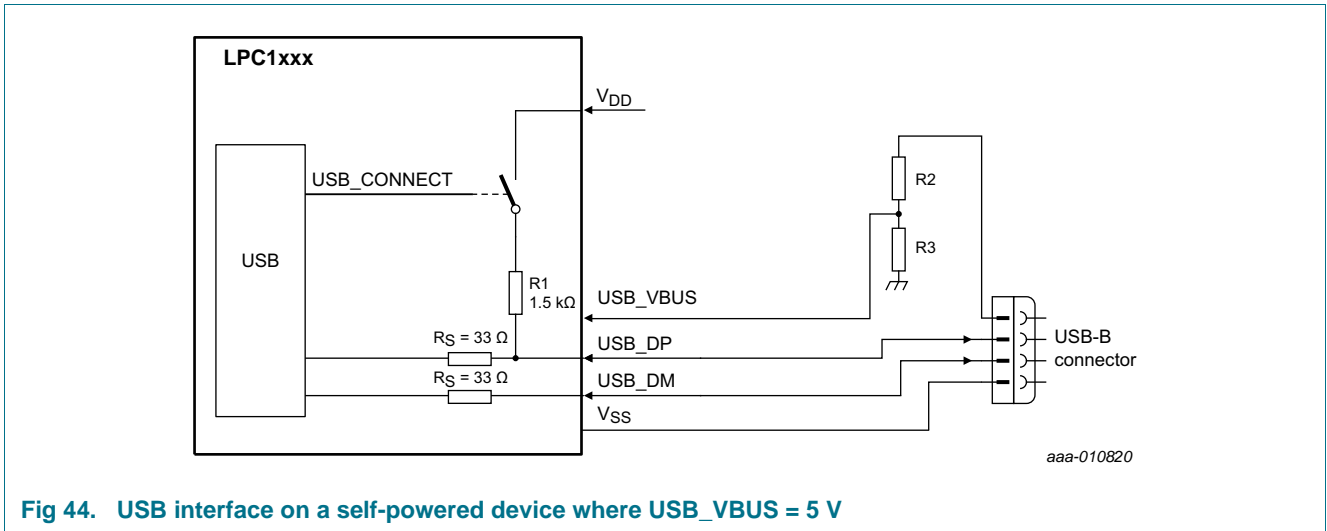
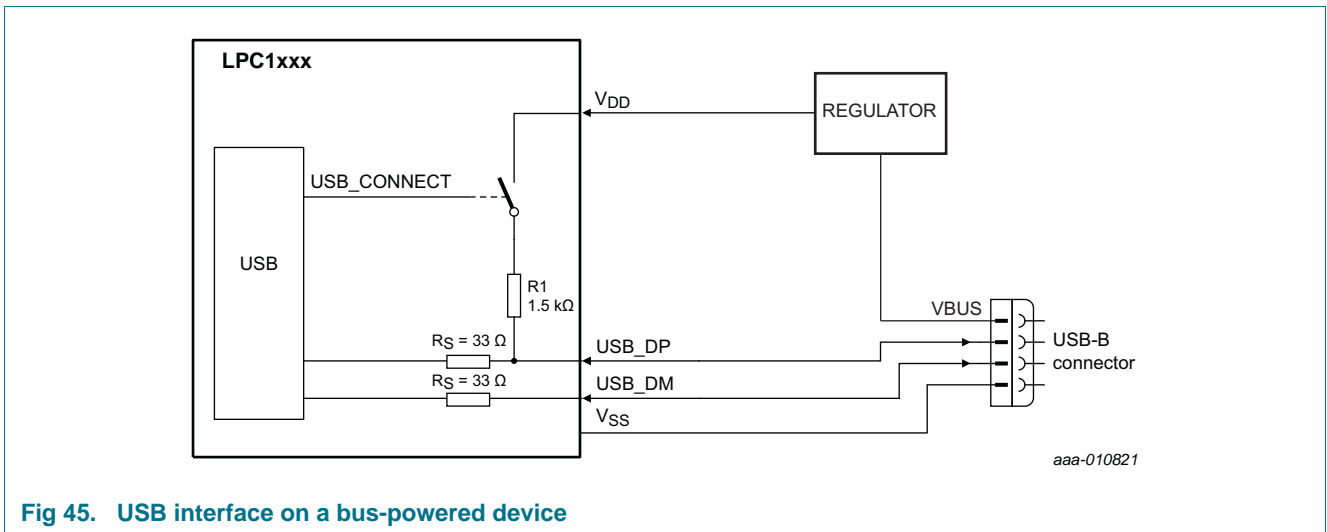

Fig 44. USB interface on a self-powered device where USB\_VBUS = 5 V
Fig 45. USB interface on a bus-powered device
The USB device can be connected to the USB as self-powered device (see Figure 44) or bus-powered device (see Figure 45).
For a bus-powered device, the VBUS signal does not need to be connected to the USB\_VBUS pin (see Figure 45). The USB\_CONNECT function can additionally be enabled internally by setting the DCON bit in the DEVCMDSTAT register to prevent the USB from timing out when there is a significant delay between power-up and handling USB traffic. External circuitry is not required for the USB\_CONNECT functionality.
**Remark:** When a bus-powered circuit as shown in Figure 45 is used or, for a self-powered device, when the VBUS pin is not connected, configure the PIO0\_3/USB\_VBUS pin for GPIO (PIO0\_3) in the IOCON block. This ties the VBUS signal HIGH internally.